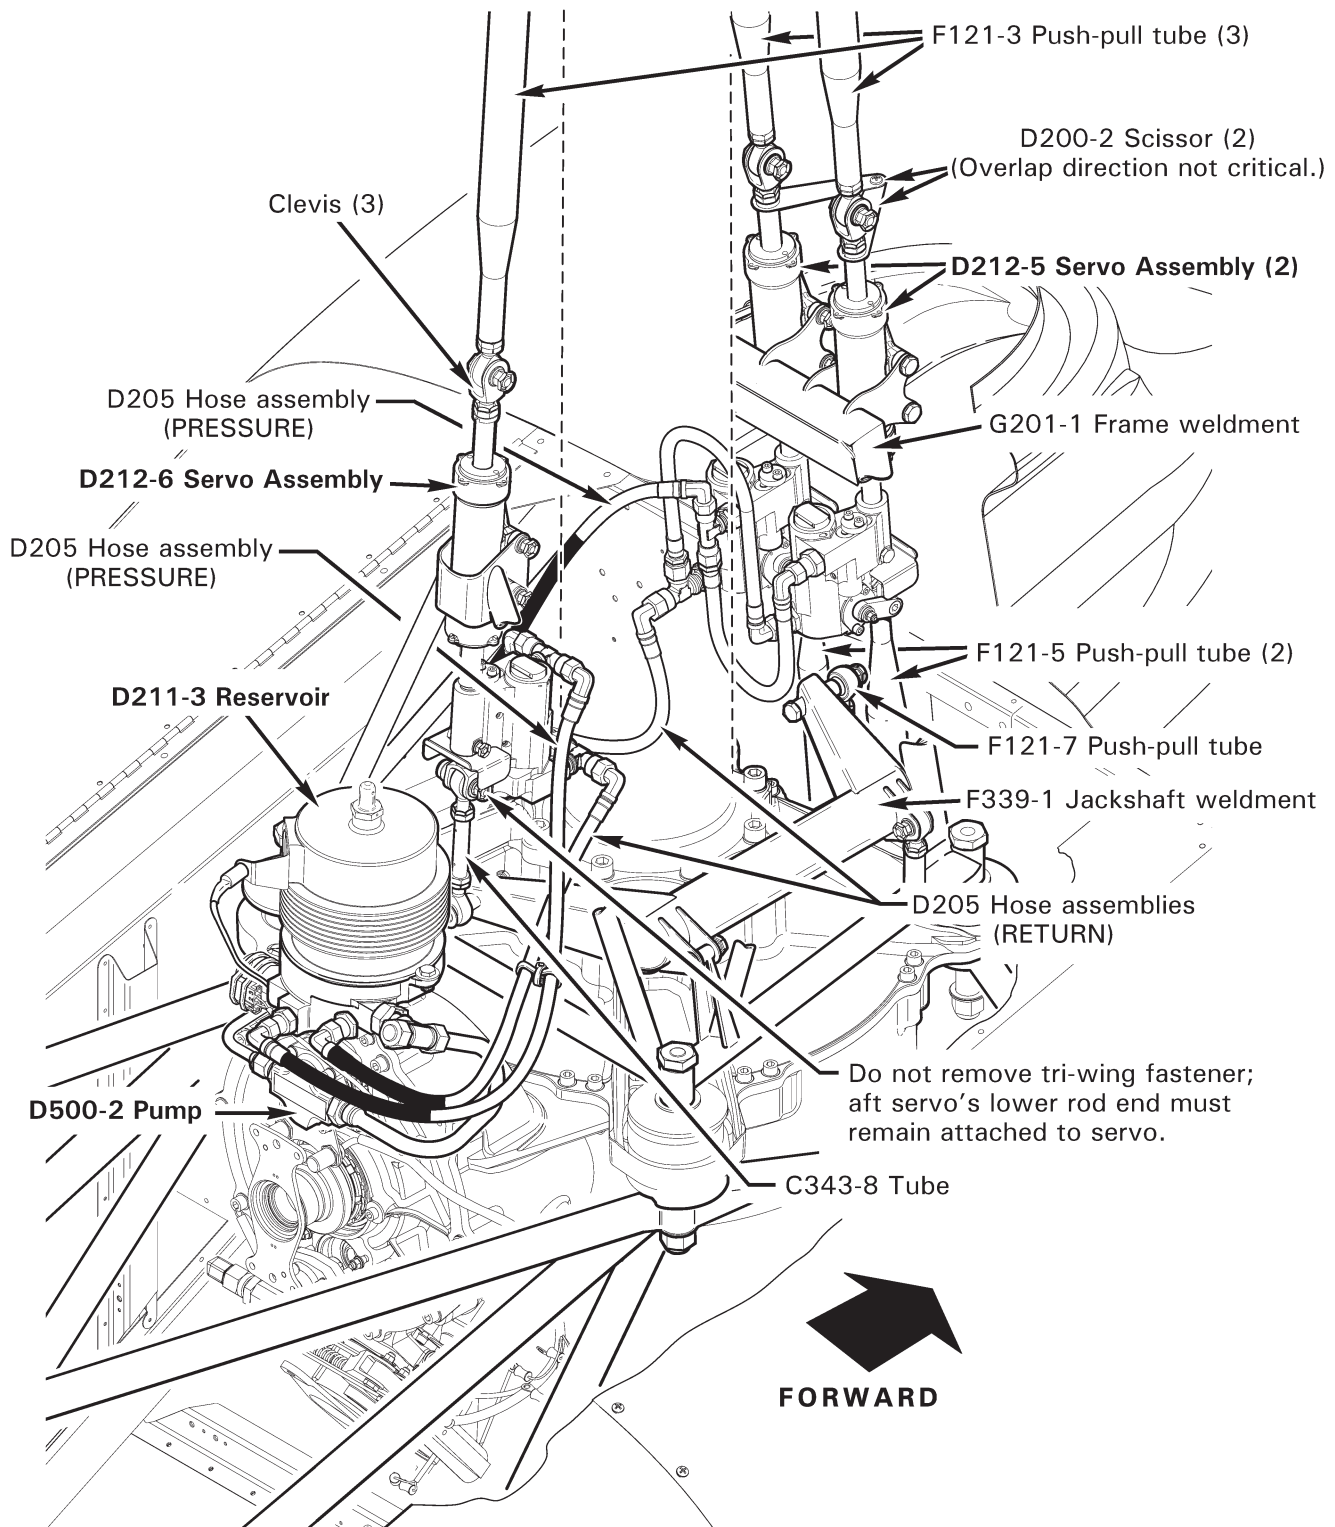

FIGURE 29-1 HYDRAULIC FLIGHT CONTROL SYSTEM
2. Refer to Figures 29-1 and 29-3. Perform the following measurements on all D212 hydraulic servo assemblies to be removed:
1. Refer to Figures 29-1 and 29-3. Lightly coat D200-1 clevis threads with B270-21 protectant. Assemble clevis, palnut, nut, D200-3 washer (forward servo), and D200-2 scissor (forward servo), and install assembly in D212 hydraulic servo assembly piston. Adjust dimension between clevis hole center & top of servo piston to dimension recorded during servo removal, then tighten jam nut and palnut finger tight.